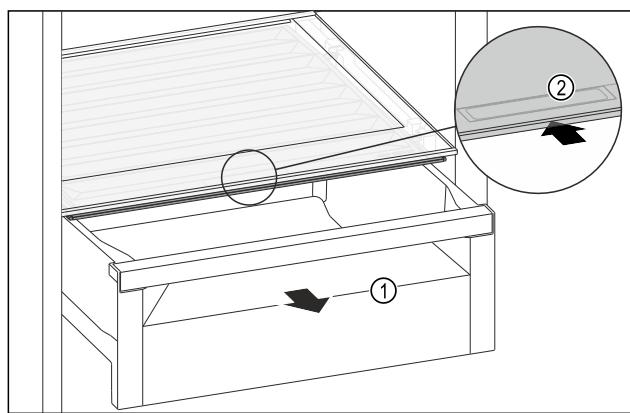

Fig. 87
- ▶ Pull out the drawer Fig. 87 (1).
- ▶ Grasp the recessed grip Fig. 87 (2) on the compartment lid and push the compartment lid backwards at the same time.